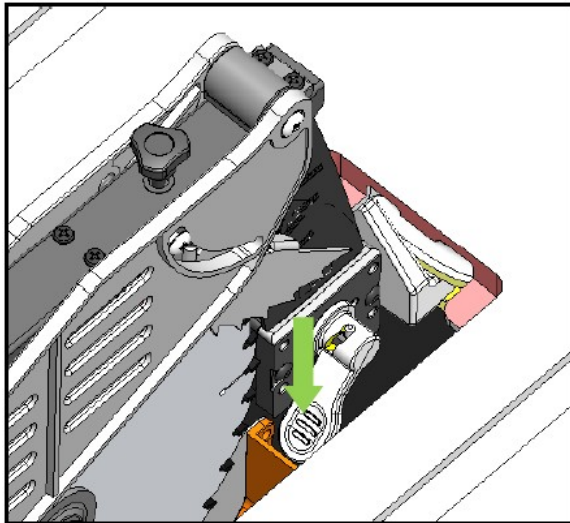

Figure 14
- 3.) Insert the spreader into the bracket slot and push down the locking lever to lock the spreader in place. See figure 14 below.